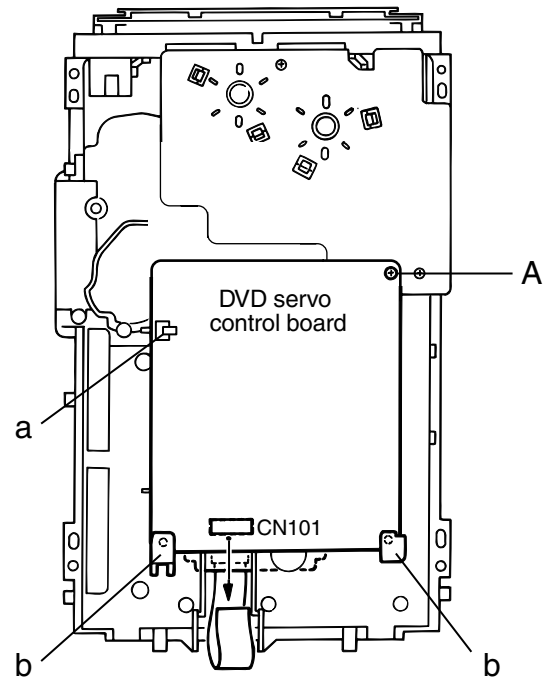

Fig.1
■ Removing the DVD mechanism board (See Fig.1)